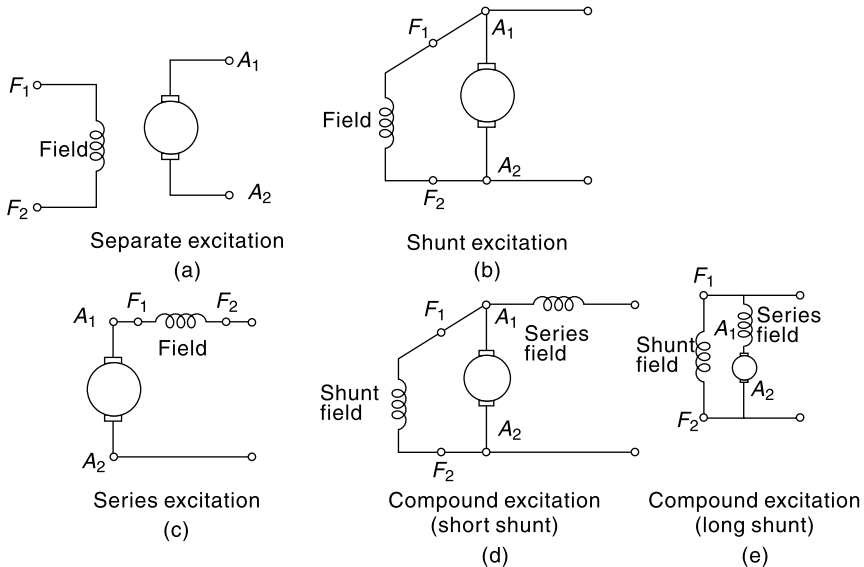

Fig. 9.3 Different excitations
The separately excited field winding consists of several hundred turns of fine wire and is connected to a separate or external dc source as shown in Fig. 9.3(a). The voltage of the external dc source has no relation with the armature voltage, i.e. field winding energised from a separate source can be designed for any suitable voltage.
- (a) **Shunt excitation** [Fig. 9.3 (b)]. Here field excitation is obtained from the armature voltage. The shunt field excitation ampere turns (AT) is obtained by having a large number of field turns with a small field current. For a generator, shunt excitation is a type of self-excitation when the field winding resistance is high but field exciting current is low.
- (b) **Series excitation** [Fig. 9.3 (c)]; The field is wound with a few turns of wire (of low resistance) and is excited in series from the armature current. This excitation varies with the load (current).
- (c) **Compound excitation** [Fig. 9.3 (d) and (e)]; Both shunt and series fields are employed in this method.
If the shunt field is connected in parallel with the armature alone the machine is called a *short shunt compound* machine [Fig. 9.3(d)] and if the shunt field is connected in parallel with both the armature and series field the machine is called a *long shunt compound* machine [Fig. 9.3(e)].